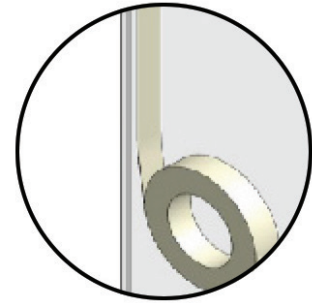

FIG 17.
- Apply masking tape down the length of the panel, allowing a 10mm gap for the glass to butt into for the glass to glass join (FIG 17).